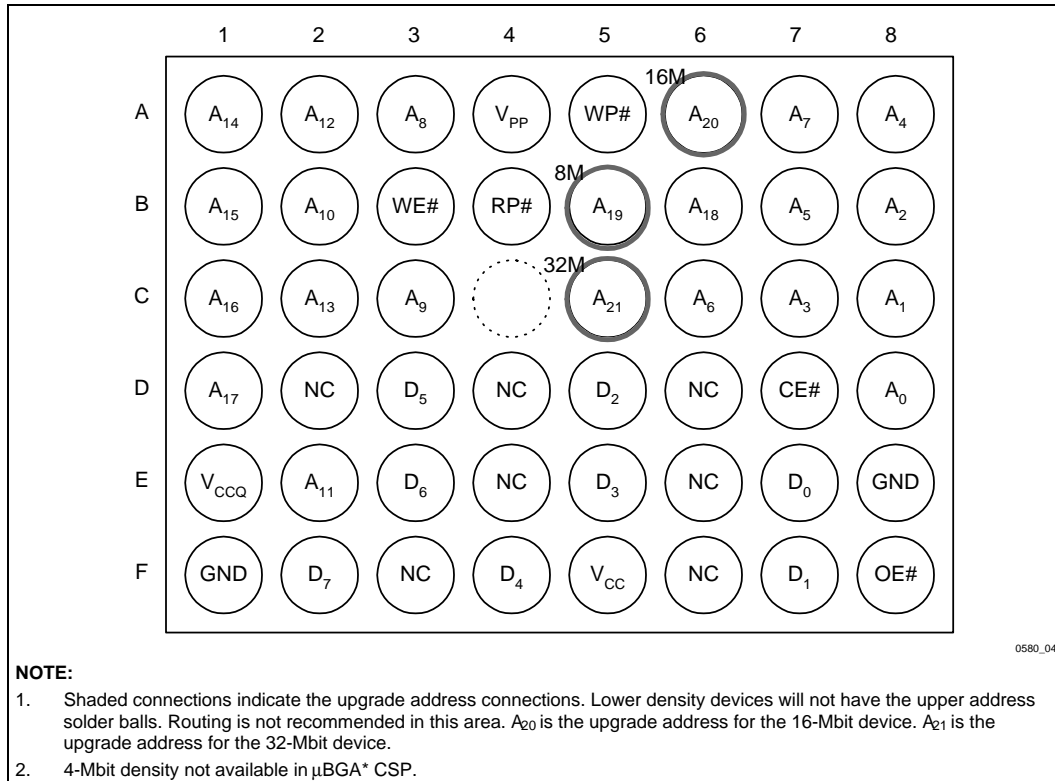

Figure 3. x8 48-Ball μBGA* Chip Size Package (Top View, Ball Down)
-005	<p>µBGA package diagrams corrected (Figures 3 and 4)</p> <p>I_{PPD} test conditions corrected (Section 4.4)</p> <p>32-Mbit ordering information corrected (Section 6)</p> <p>µBGA package top side mark information added (Section 6)</p>
The Smart 3 Advanced Boot Block flash memory is available in 40-lead TSOP (x8, Figure 1), 48-lead TSOP (x16, Figure 2) and 48-ball μ BGA packages (x8 and x16, Figure 3 and Figure 4 respectively). In all figures, pin changes necessary for density upgrades have been circled.